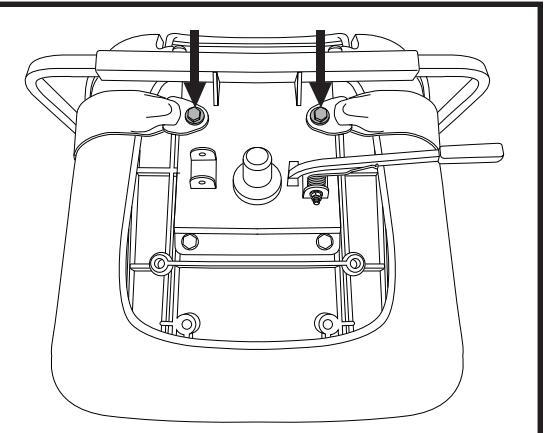

Figure 27. Positioning Belt Bolts
2. Place the seat upside down so that you can see the bottom of the seat base. See **figure 27**.